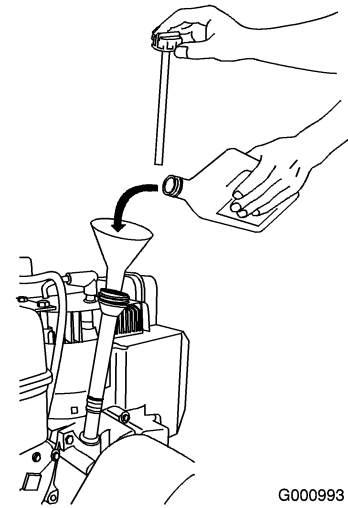

Figure 13
- Remove the dipstick and **slowly** pour oil into the oil fill tube to raise the oil level to the Full mark on the dipstick. **Do not overfill.**(Figure 13).